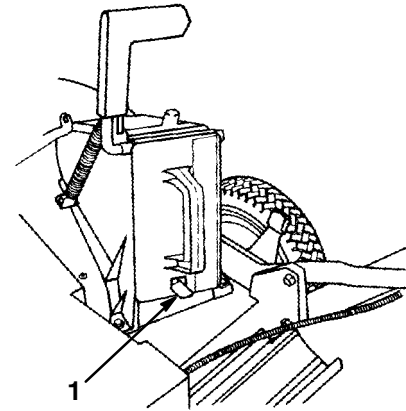

Figure 8
3. Push the plug all the way in until the spring clip on the bottom of the plug clicks into place, locking the plug securely into the discharge tunnel (Fig. 8).